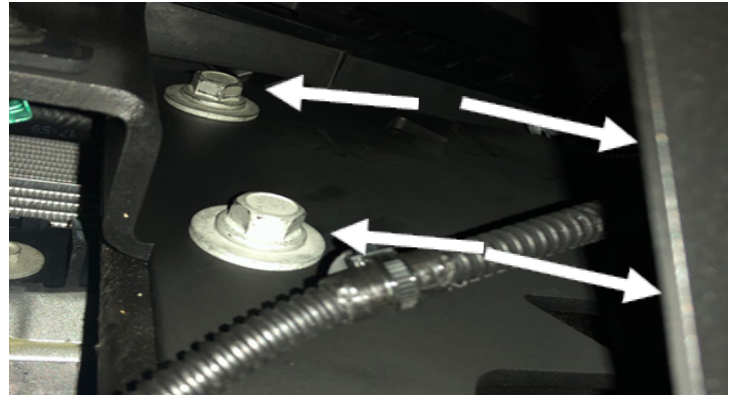

Figure 24
23. With assistance, hold the Fab Fours bumper up to the frame horns and attach it using the eight (8) OEM bolts from step 13 and a 15mm socket wrench. Figure 24.